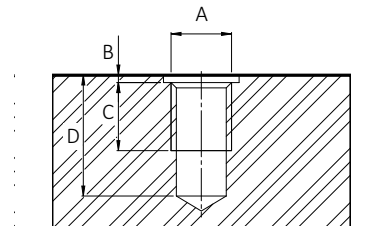

Figure 59: Front mounting threads for all Goldeye models
1. Mount the camera to the base using suitable M4 screws at 3.4 Nm maximum torque for a thread engagement (C) of 7 mm between screws and mounting threads, see Figure 59. For details, see your model's technical drawings.